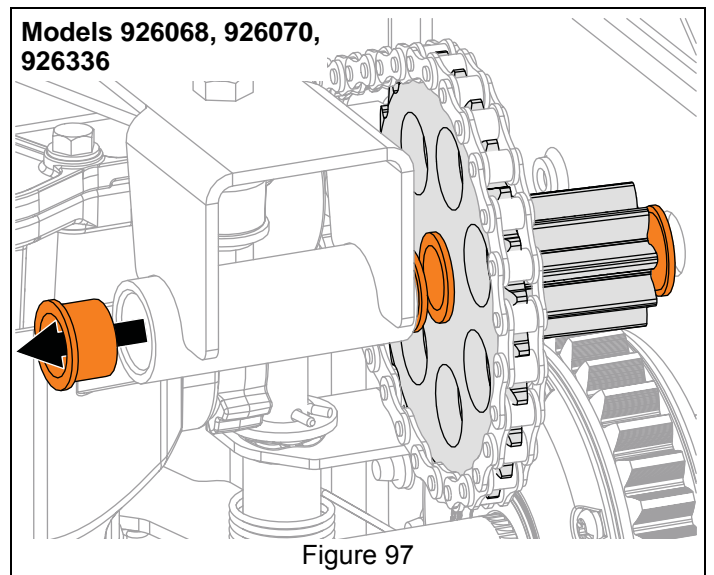
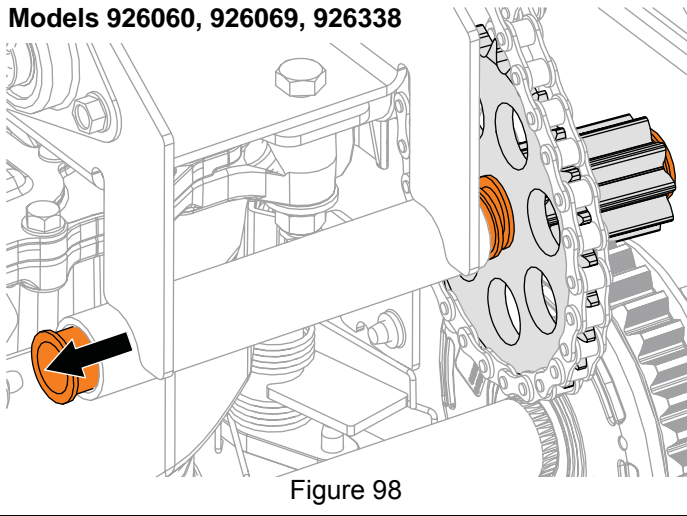
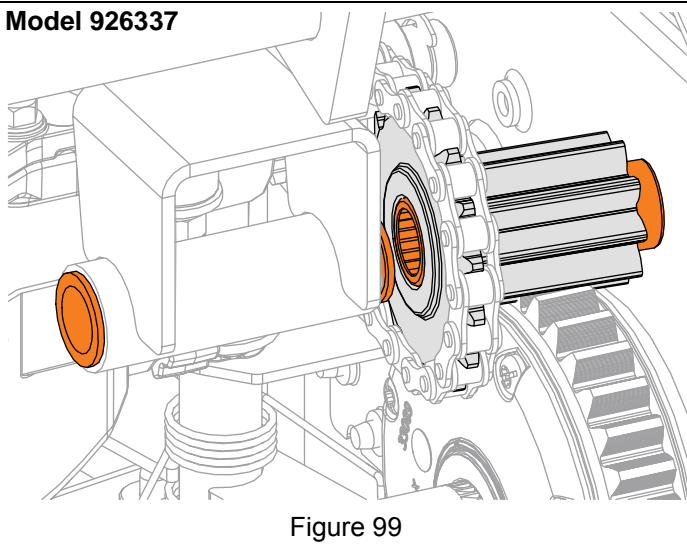

Figure 97
Figure 98
Figure 99
14. Remove bushings from pinion gear and / or transaxle mounting bracket, as necessary. See Figure 97, Figure 98 and Figure 99.